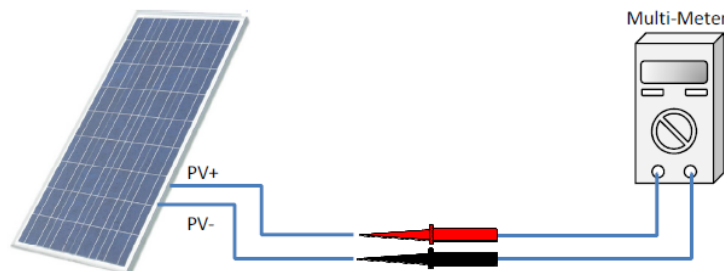

Figure 4-12 DC cable polarity detection
- Refer to Figure 4-12 to confirm the DC input configuration, ensuring that the maximum open-circuit voltage of each photovoltaic module is lower than 1100 Vdc